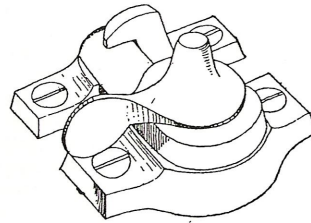

Fig. 199. Ives Sash-fast. H. B. Ives & Co.
V. *"Cam" sash-fasts.* The sash-fasts of which Figure 199 is a type, are quite difficult to represent by a drawing.